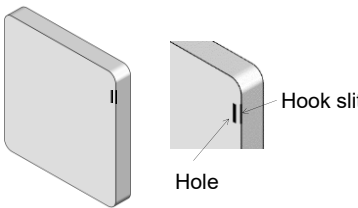

Fig. 3.4.6
- Hook the unit onto the bracket hook. Check the position of the hook slit on the back of the unit (Fig. 3.4.6). Align the four holes in the unit with the four hooks on the bracket, using the slit as a guide. Make sure the four holes are hooked onto each hook. If they are not, the installation bracket and unit cannot be secured properly.